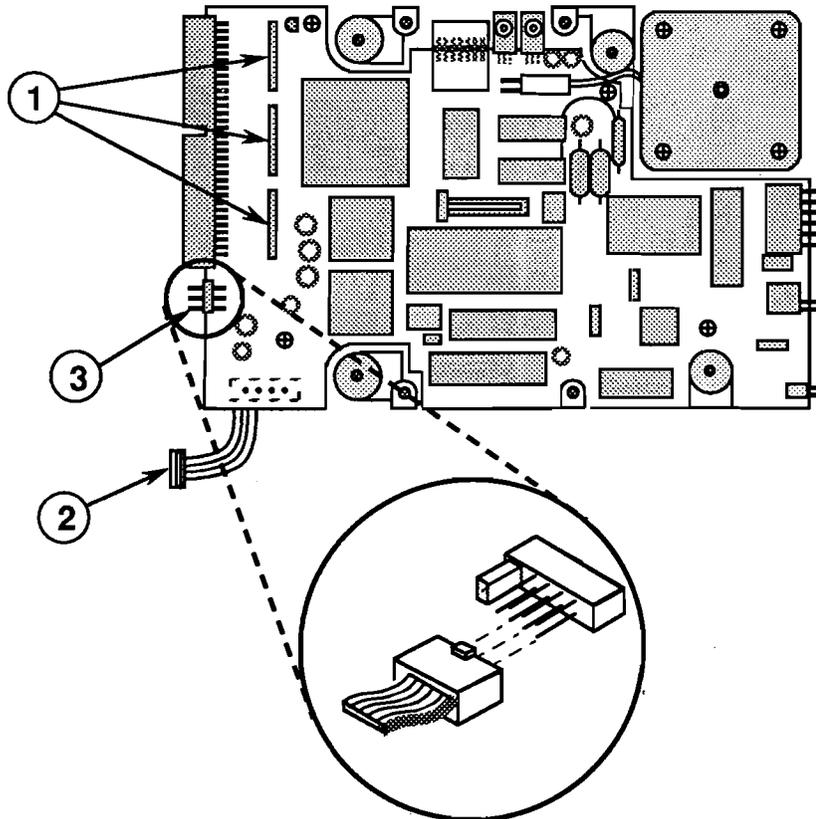
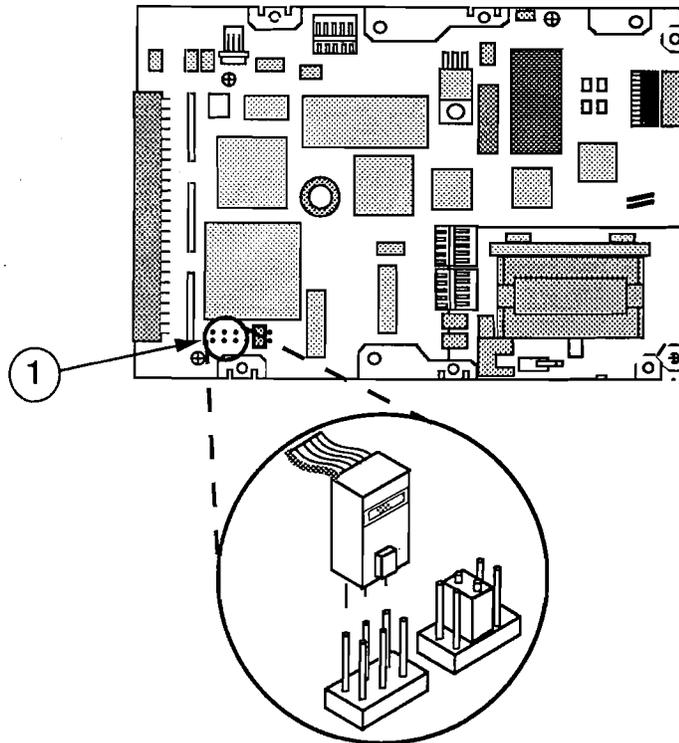

FIGURE 7
FIGURE 8
2. Disconnect the three resistor packs (Figure 7, #1) from the controller board. To do this, use needlenose pliers and pull the resistor packs straight up.
3. Disconnect the power cable (Figure 7, #2). (On some drive assemblies, the power cable is located on the opposite side of the hard disk.)
4. Identify the graphic (Figure 7 or 8) that shows the SCSI connector configuration (Figure 7, #3 or Figure 8, #1) of your hard disk assembly.
IMPORTANT: You must connect the customer's SCSI select cable to six unkeyed connector pins on the controller board. The SCSI connectors differ in design and location between drive models. For models represented by Figure 7, be sure to install the SCSI cable with its tab ("key") pointing up. For models represented by Figure 8, be sure to install the SCSI cable with its tab pointing toward the outside edge of the controller board.
- **Figure 7:** Attach the SCSI cable connector (tab up) to the three pairs of pins nearest the outside edge of the board. On some models, one or more of the three outside pairs of pins may have small jumpers installed; if so, remove the jumper(s).
- **Figure 8:** Attach the cable connector (tab out) to the three **outermost** pairs of pins on the 12-pin connector (the three pairs of pins nearest the large, 50-pin SCSI connector).